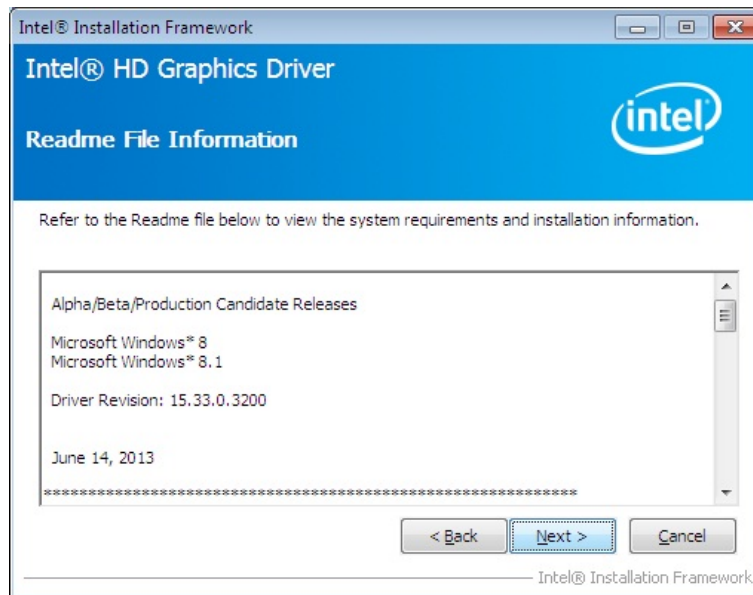

Figure 6-8: Graphics Driver Read Me File
Step 8: The **Read Me** file in **Figure 6-8** appears. Click **Next** to continue.